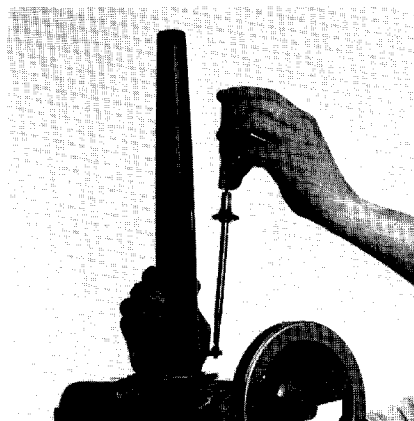

Figure 5
6.1 Use three round head screws (furnished) to fasten elevating Screw Guard to Column Cap. (Fig. 5)